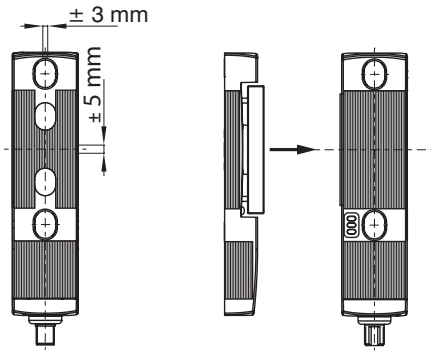

Figure 1: Maximum permitted lateral offset and Effective Direction of the Locking Force
- The Guard Locking Device must be operated in the same direction as the effective direction of the locking force (see figure 1).